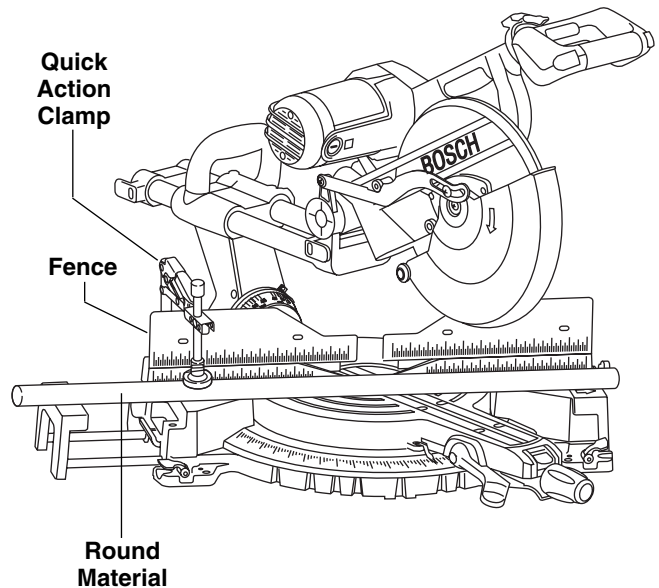

Figure 38. Round Material
**⚠ WARNING** For round material such as dowel rods or tubing, always use a clamp or a fixture designed to clamp the workpiece firmly against the fence and table. Rods have a tendency to roll while being cut, causing the blade to “bite” and pull the work with your hand into the blade (Figure 38).